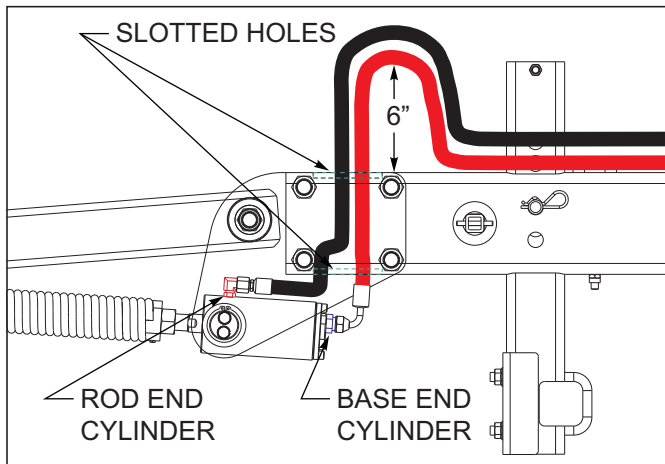

Figure 3-49: Hose to Cylinder Installation
17. Attach hoses down through the slotted holes of combo harrow mount arm to cylinders as shown **See Figures 3-49.** The reel base end of cylinder hooks to top set of holes of 8 port manifold, rod end to bottom holes of manifold.